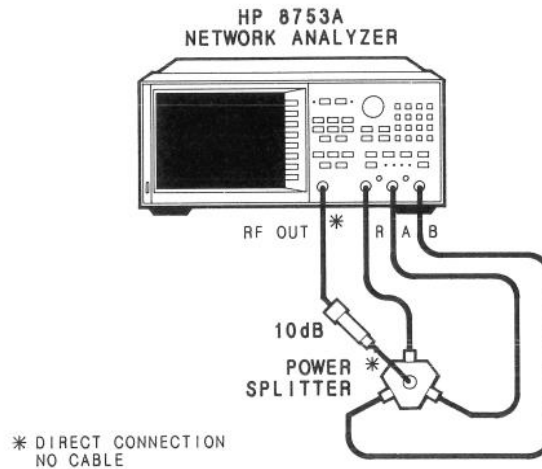

Figure 7. Frequency Response Test Setup
1. Connect the equipment as shown in Figure 7.